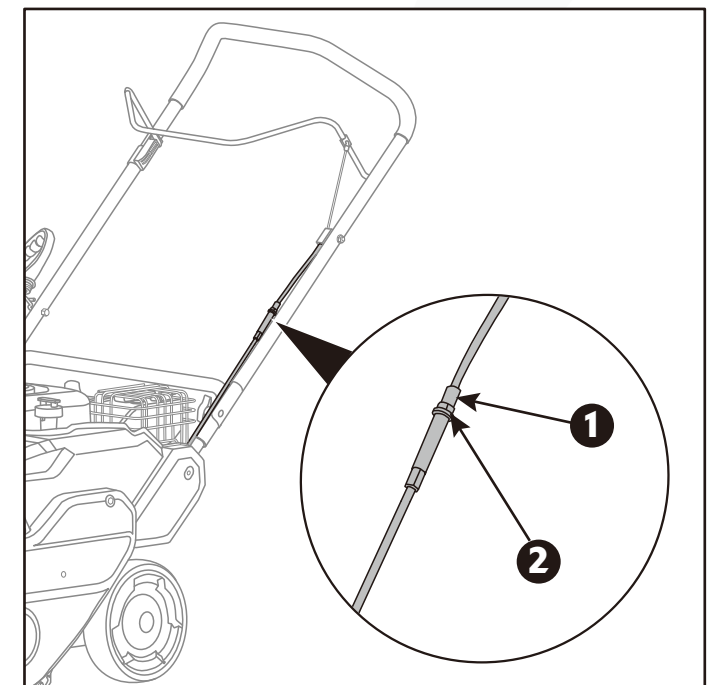

Fig.13
3. Loosen the jam nut (2) on the control cable. (Fig.13)
4. Turn the adjustment bolt (1) up to extend the control cable and remove the cable slack. (Fig.13)
5. Screw the jam nut (2) to fix the bolt and get a natural tension station for the cable. (Fig.13)